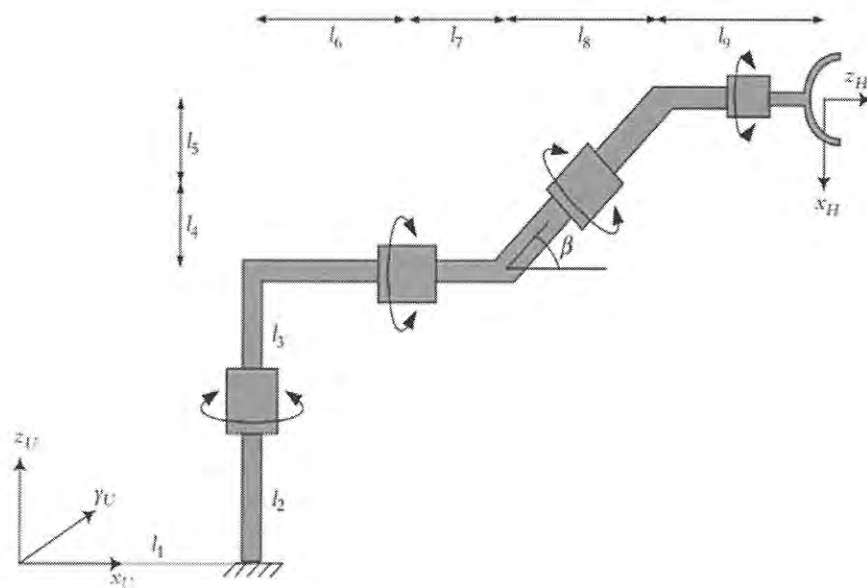

Figure Q3: 4-DOF robot
- Q3.** The Denavit-Hartenberg (D-H) model of representation is a very simple way of modeling robot links and joints that can be used for any robot configuration, regardless of its sequence or complexity. It can also be used to represent transformations in any coordinates such as Cartesian, cylindrical, spherical, Euler, and RPY. Additionally, it can be used for representation of all revolute articulated robots, SCARA robots, or any possible combinations of joints and links. **Figure Q3** shows the 4 degrees-of-freedom (DOF) robot. For the given 4-DOF robot designed for a specific operation: